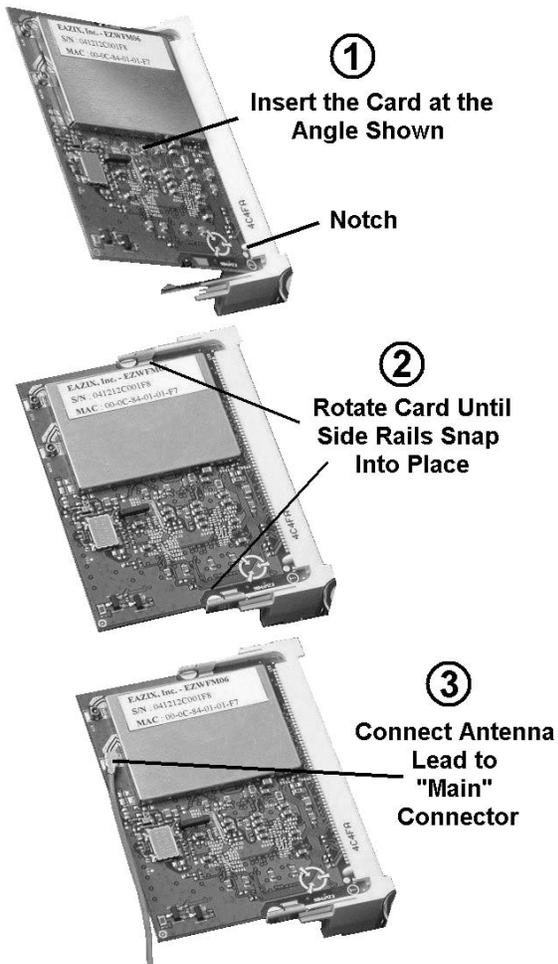

Figure 3-36: Installing the PCWS 2010 Wireless Card
- 5.** To install the wireless card, refer to Figure 3-36 below.
- (1) Begin by inserting the card into the socket at a high angle. Be sure the notch on the card lines up with the protrusion on the socket body.
- (2) When the card is fully inserted in the socket, rotate the it downwards until the side rails snap into the corresponding notches at each side of the board.
- (3) Install the short antenna lead between the wireless card and front panel. Attach the small connector to the Main antenna terminal on the card and the large connector to the Front I/O Panel as shown in the Figure above.
- Spread the side rails outward. When the side rails are clear, the board flips-up for removal as shown the top of Figure 3-36.